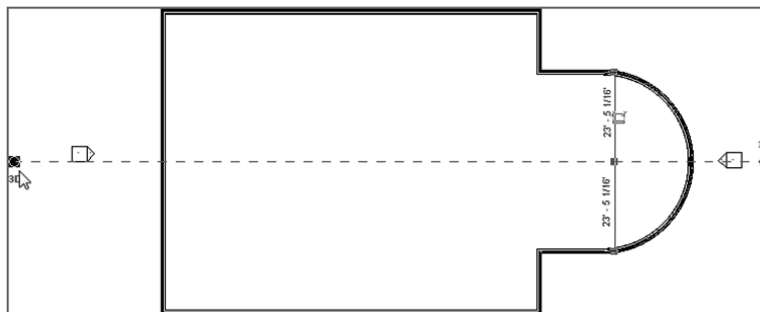

FIGURE 2.3: You can grip-edit reference planes to the required length.
4. Draw the reference plane through the center of the building, extending each end past the exterior walls. (Remember, this is a construction line. You can go long if you need to do so.) See Figure 2.3 for an idea of where the line should go. If you're having trouble locating the reference points for the start of the reference plane, make sure you're snapping to the midpoint of the walls. You can also type SM to snap to the midpoint of the wall.
6. If the line isn't the length you want, you can stretch it. First select the line; at each end, you see blue grips. Simply pick (left-click) the grip, and stretch the reference plane to the desired length, as shown in Figure 2.3.